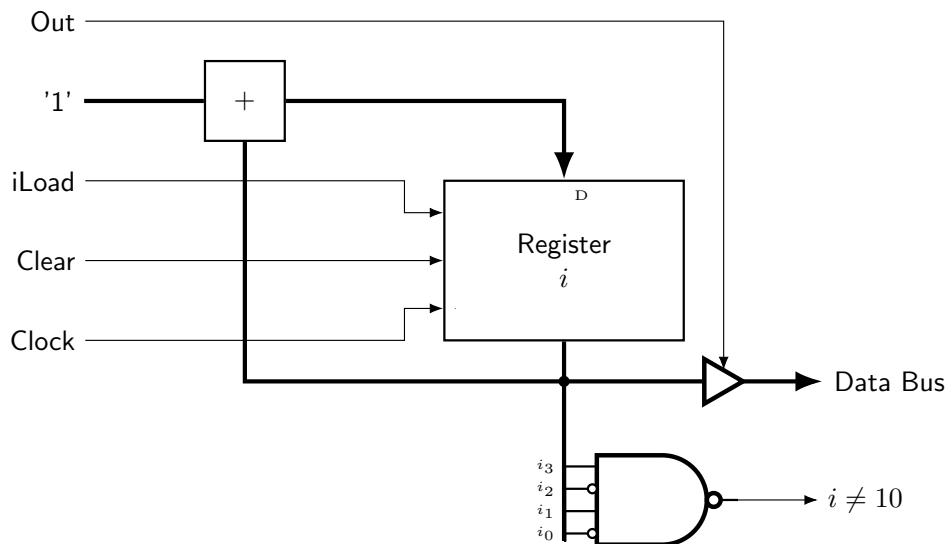

Figure 2: Dedicated data path for counting 1 to 10.
We have derived the three corresponding control words for these three data manipulation instructions for controlling the dedicated datapath shown in Figure 2. These three control words are shown here in Figure 3.
1. Write a VHDL file that defines a datapath using the structured depicted in Figure 2. Your code should include a 4-bit adder, 4-bit register with load and clear, a 4-bit comparator and a quad tri-state buffer. Compile the circuit. How many logic elements (LEs) are used to implement your circuit?